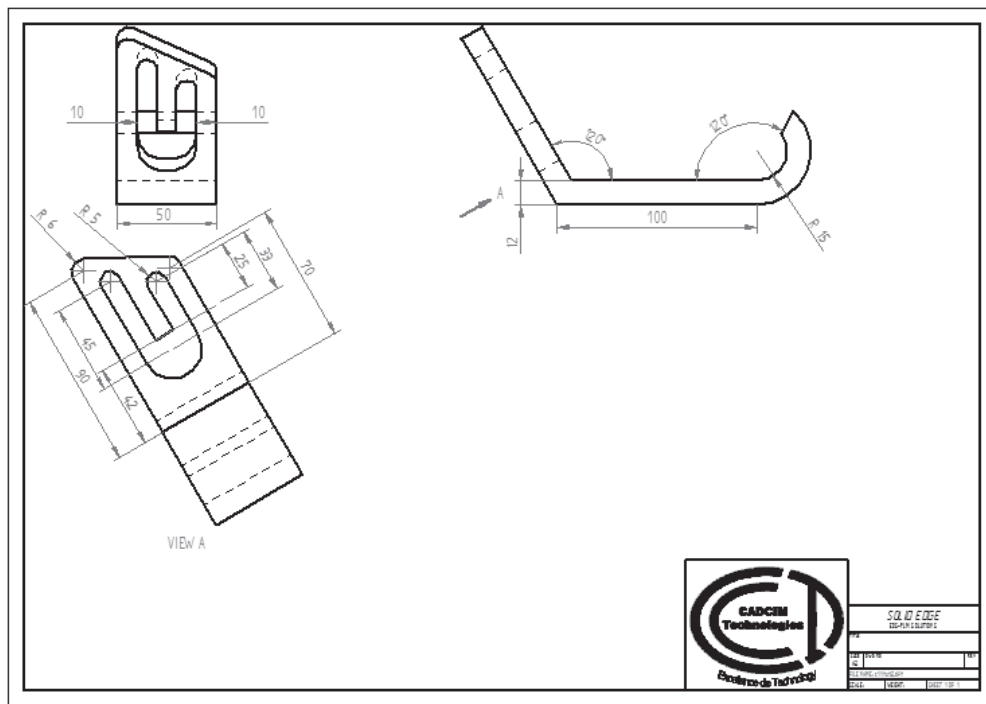

Figure 11-45 Drawing sheet after dimensioning the views
- Create the remaining dimensions that are not generated, refer to Figure 11-45.
The drawing sheet, after placing the drawing views, is shown in Figure 11-45.